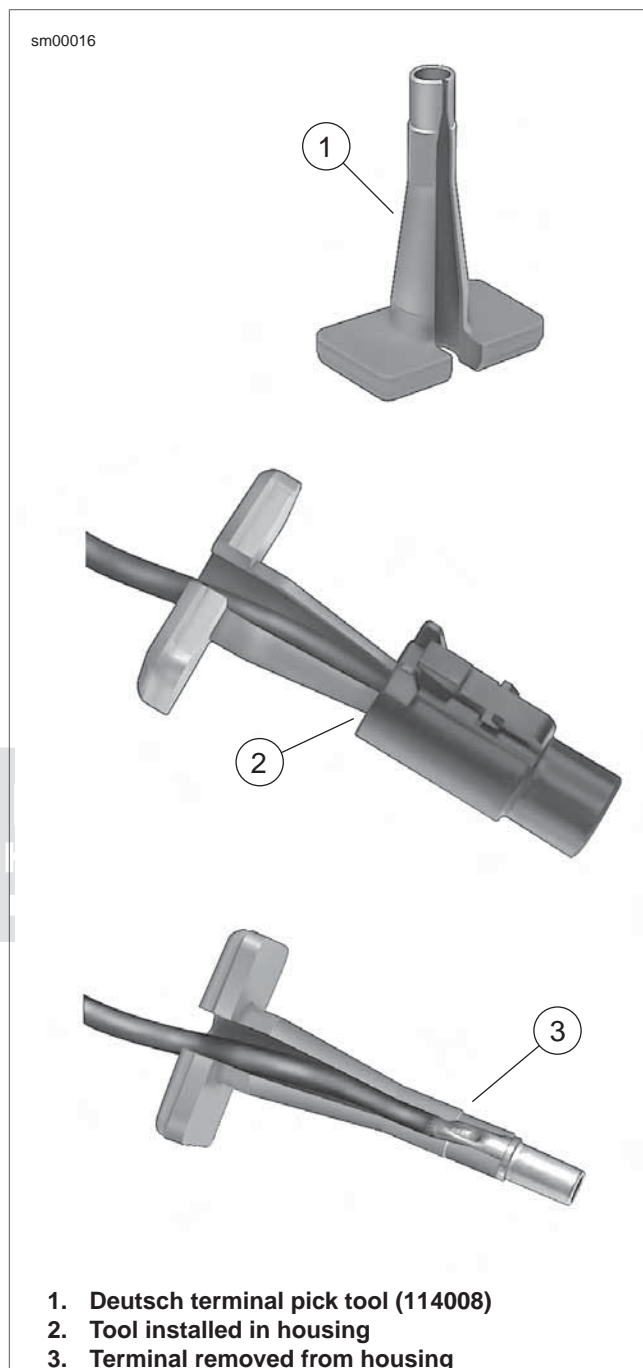

Figure A-10. Deutsch 1-Place Connector: Remove Socket/Pin Housing
2. See Figure A-10. Using terminal pick tool (Deutsch® 114008) (1), install tool onto voltage regulator cable so that the tapered end is in the wire end of the housing (2).
3. Push tool into wire end of housing until it bottoms. Gently tug on housing to pull from terminal (3).
See Figure A-10. To separate the connector halves, depress the external latch(es) (1) on the socket housing (2) while rocking the pin (3) and socket housings.